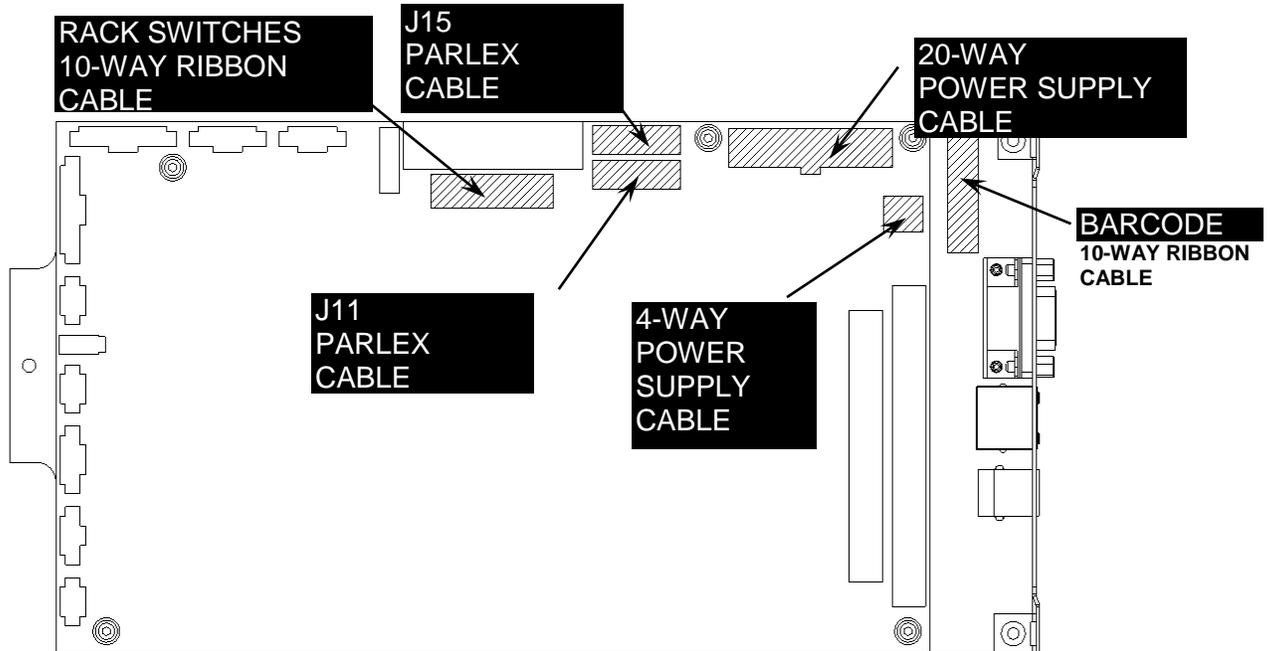

Figure 14-8: Cable Connections, Part 1
1. Plug the connectors from the Barcode, Rack Switches, the two Parlex Flex cables and the two power cables from the Power Supply into the I/O board (Figure 14-8)